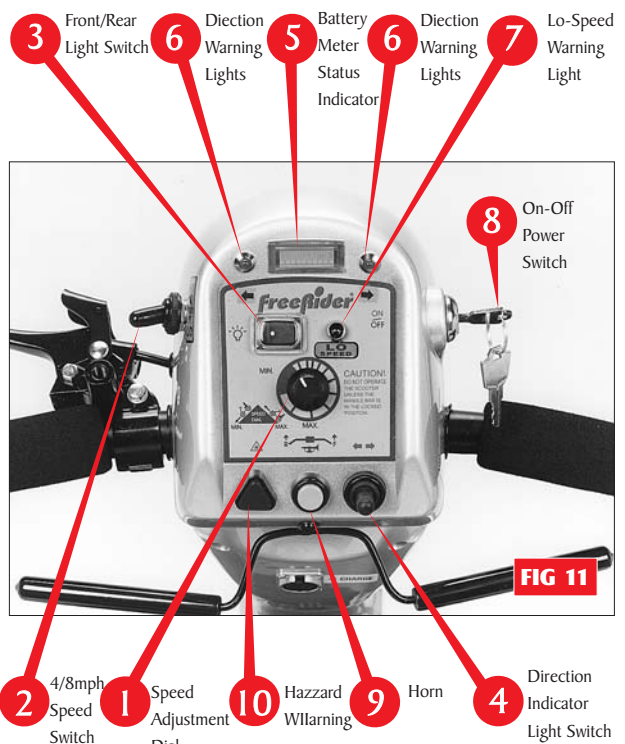
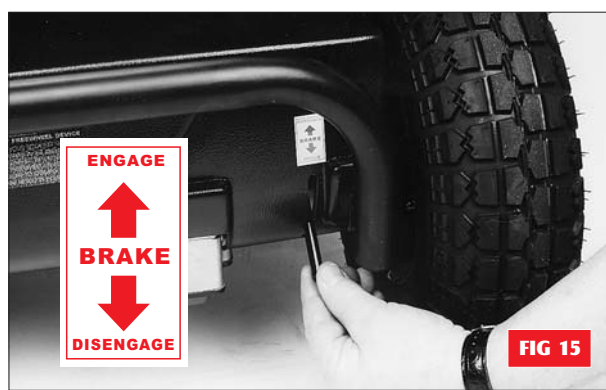

FIG 11
FIG 15
Your controls are located on the handlebar console (see Fig 11) they are:
2. **4/8mph Hi/Lo speed Switch:** Located on the left side of your console this switch controls the maximum high (Hi) and low (Lo) speed range for your **Westminster** Scooter. When riding on the pavement or in shopping areas the low 4mph speed range must be engaged, **this is a legal requirement and must be adhered to at all times.** When the low speed range is chosen a 'red' warning light (see fig 11 No.7) will illuminate. The Hi/Lo speed range switch can be operated while the Scooter is in motion.
Please note the Hi/Lo speed switch works in conjunction with the speed adjustment dial (see fig 11 No.1) and the forward/reverse speed lever; the speed dial must be set to it's highest setting for maximum speed in both Hi and Lo speed settings.
4. **Direction Indicator Light Switch:** Located at the bottom right of your console, the direction indicator lights for right and left manoeuvres are controlled by this switch. When making a turning manoeuvre on the road the appropriate switch direction should be made. Simply, when turning right 'flick' the switch to the right, you will note a warning 'bleeper' is audible and the appropriate direction warning light (see fig 11 No.6) will flash. To cancel the direction indicator return the switch to the centre position. The left direction indicators are activated by 'flicking' the switch to the left. **Caution:** Please note the direction indicators are not self-cancelling. Warning: Please be aware to test the function of your direction lights before each journey. Failure to observe this warning could put you and other road users into a dangerous situation. If in the event a direction indicator bulb fails, you will note the direction warning light (see fig 11 No.6) on your console flashing quicker than normal, in this situation the appropriate bulb should be substituted.
The freewheel device is a red lever located at the rear right hand side of your Scooter (fig 15). To freewheel your **Westminster** first switch off the power switch located on the Westminster's control console (fig 11). Pull up the black lever (fig 15) until a distinct click is felt. You can now push your **Westminster** with ease. Please note, in this mode with the power switch in the off position, the braking safety system is automatically activated when the Scooter is pushed quicker than walking speed, this is an automatic 'run away' safety checking system, it also reduces the risk of casual theft.